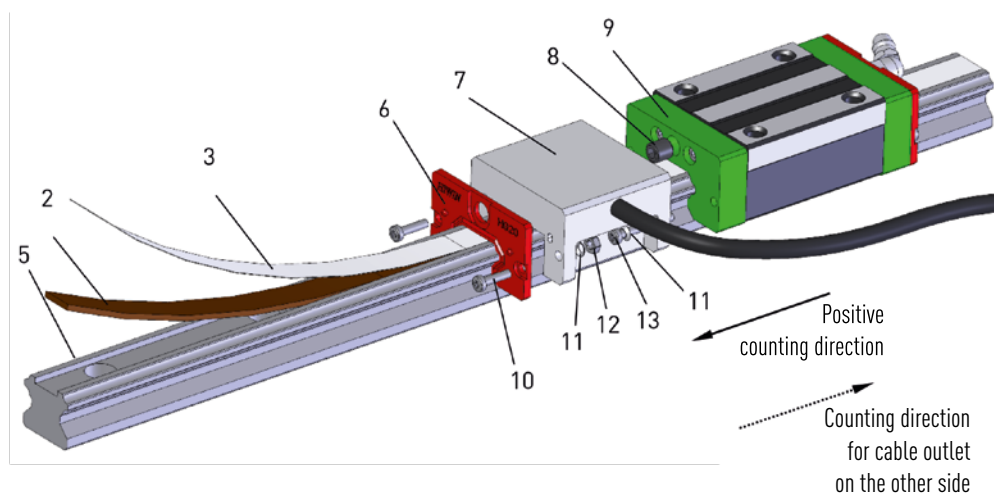

Figure 4.4 Assembly of the HIWIN MAGIC-PG
- Place the MAGIC housing on the deflector. The housing can be mounted in two directions – depending on the desired counting direction and/or cable outlet side. **The counting direction is as shown in Figure 4.4 if the cable is connected as in Table 5.1.** Do not tighten screws [13] all the way (underlay lock washers [11]).